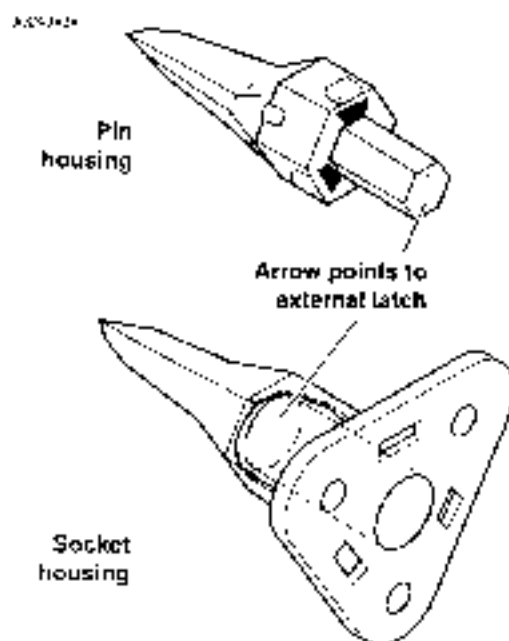

Figure B-9. Depress Terminal Latches/Back Out Pins
- While rectangular wedges do not require a specific orientation, the conical secondary locking wedge of the 3 pin connector must be installed with the arrow pointing toward the external latch. See Figure B-9.
- While rectangular wedges do not require a special orientation, the conical secondary locking wedge of the 3-pin connector must be installed with the arrow pointing toward the external latch. See Figure B-9.